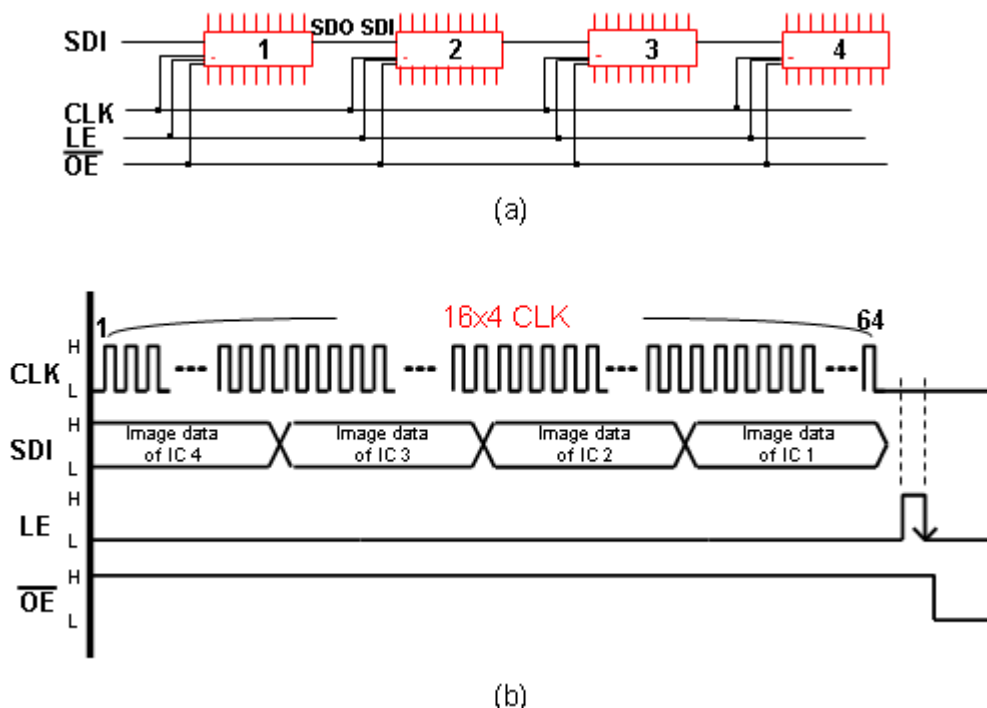

Figure 3(a). The sketch of 4pcs MBI5039 is in cascade.
Figure 3(a) gives an example of 4pcs MBI5039 ICs in cascade, and 3(b) shows the timing diagram for basic LED display control: The image data are transferred from the SDI of first driver IC to shift register by 16x4 CLK rising edge. And then as the falling edge of LE triggers, image data is transferred and latched into 16-bit output latch register. LE pulse should not cover CLK rising edge. In the following, when \overline{OE} changes from high to low (active), the output drivers are enabled.
Step 3: Deliver the signal as Figure 3 shows. The SDI pin writes with the code of "FFFF (HEX)".